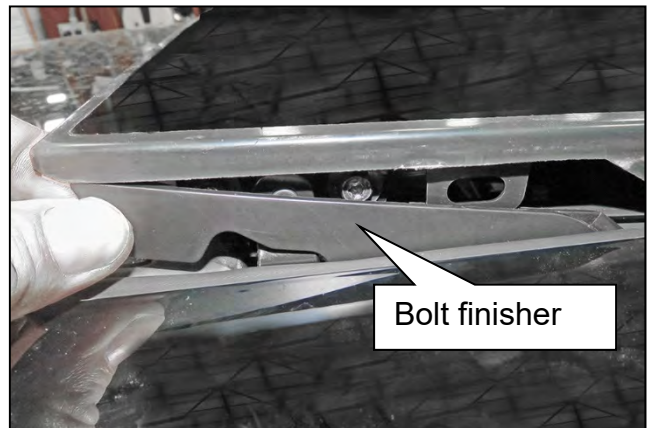

Figure 37
40. Position the new bolt finisher as shown in Figure 37.